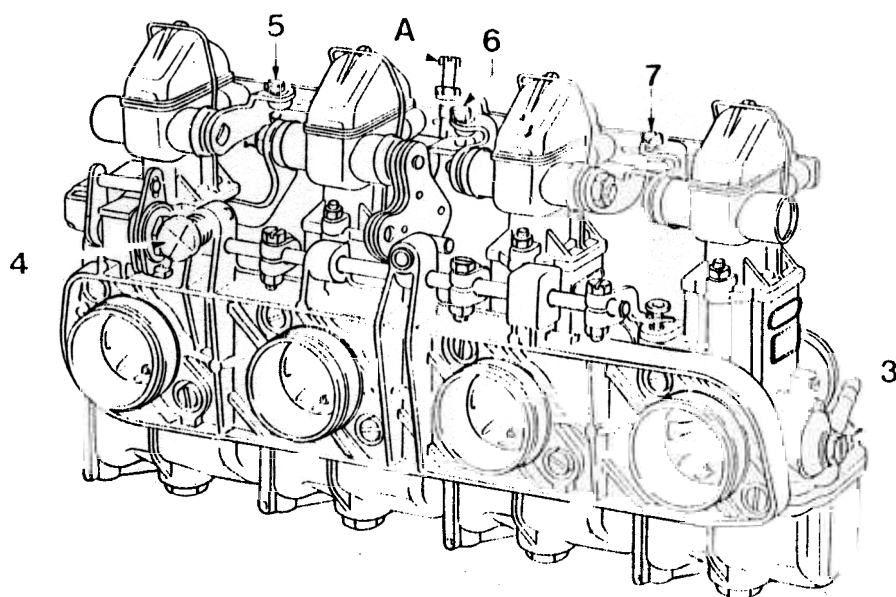

fig. 32
Make sure, both for independent (figure 31) and grouped carburettors (figure 32), that each throttle cable has about 1mm free play at idle.
- start the engine and when it has reached normal running temperature, adjust the idle speed to about 1000 rpm using the throttle adjusting screw (2) in figure 31 or screw (4) in figure 32.
- for carburettors mounted together in a group (figure 32) align the mercury column levels with the level of the carburettor connected directly to the throttle control, adjusting the balance-adjusting screws (5), (6), (7).
- then adjust the mixture screws (3) of each carburettor to obtain the fastest even running.
- recheck the alignment of the mercury columns and then reset the engine to the desired idle speed using the throttle adjusting screw (2) in figure 31 or screw (4) in figure 32.